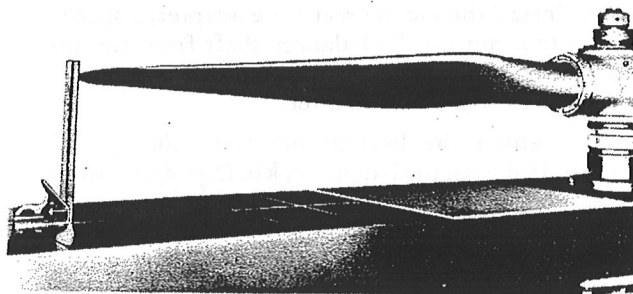

Figure 171—Checking Blade Track
c. Measure the distance from the table to the center line of each tip. (See figure 171.)